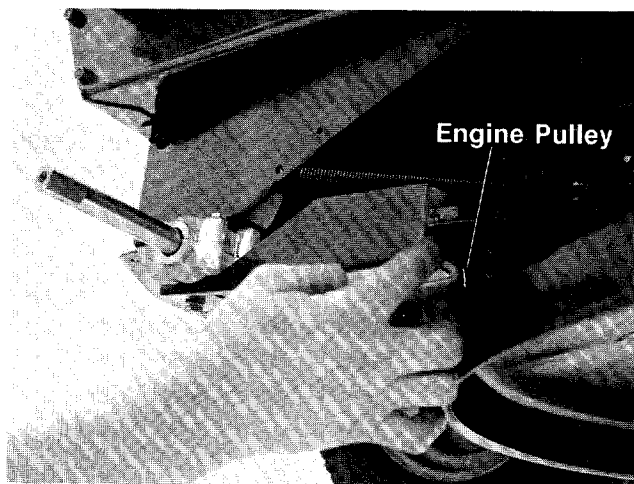

FIGURE 22.
6. Pivot the upper engine belt guard out and away from the engine pulley. See figure 22.